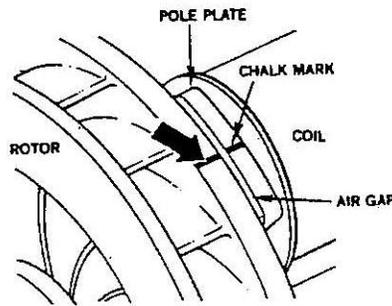

Figure 4
Step 1 Mark one (1) pole plate and (1) position adjacent to each other on the rotor with colored chalk. Figure 4.